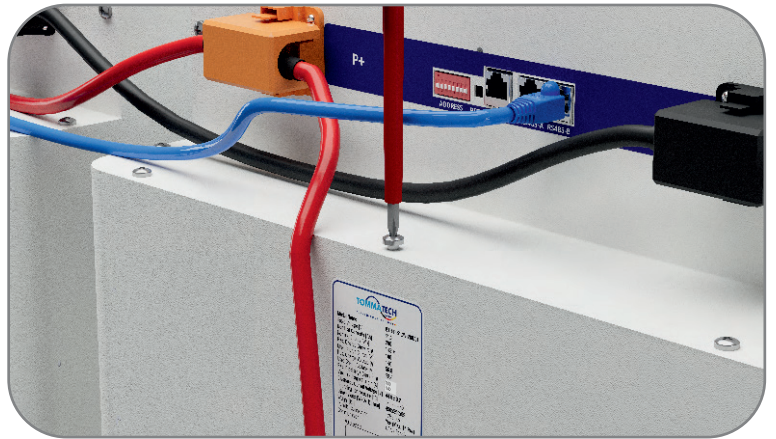

Figure 7.14
**STEP 14:** To mount the fixing apparatus to the battery, remove the middle screw at the back using a screwdriver. (Figure 7.14)